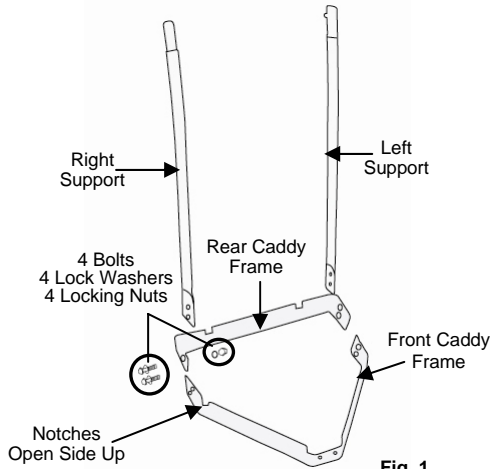

Fig. 1
- 4 Bolt / Lock Washer / Locking Nut (Fig. 1)